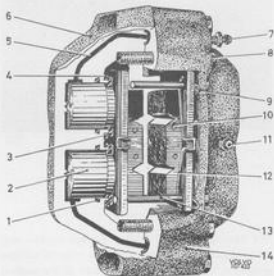

Fig. 5-8. Front wheel brake caliper
Mounted on the stub axle is the front wheel brake caliper (2) which houses the wheel unit cylinders and brake pads. The front wheel brake caliper consists of a housing in two halves (6 and 14, Fig. 5-8) bolted together and located on either side of the brake disc. Each half contains two cylinders and pistons. The upper cylinder is completely separated from the lower one, but both upper and lower cylinder are each connected through channels to the corresponding cylinder in the other half. The function of the sealing rings (1) is partly to prevent brake fluid from oozing out and partly to return the piston to the rest position after braking. Rubber dust covers (3) prevent dirt from entering. Each sealing ring has a square section and presses